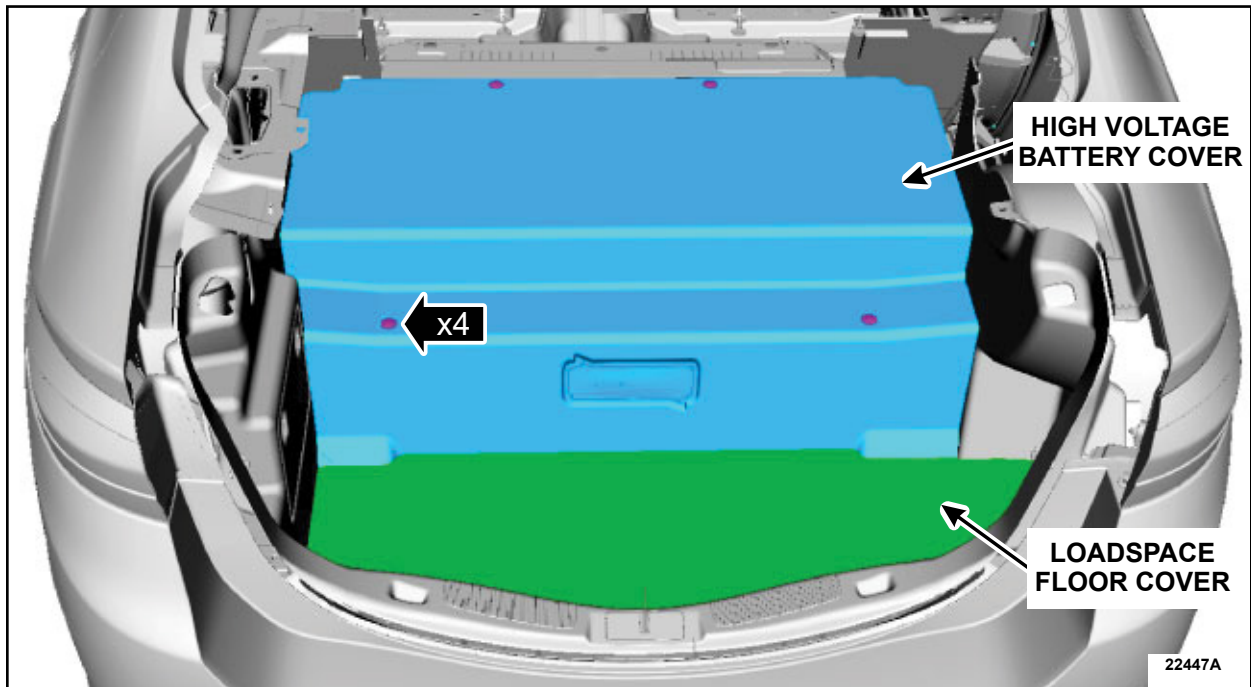

FIGURE 22
24. Install the battery cover, loadspace floor cover and the retainers. See Figure 22.